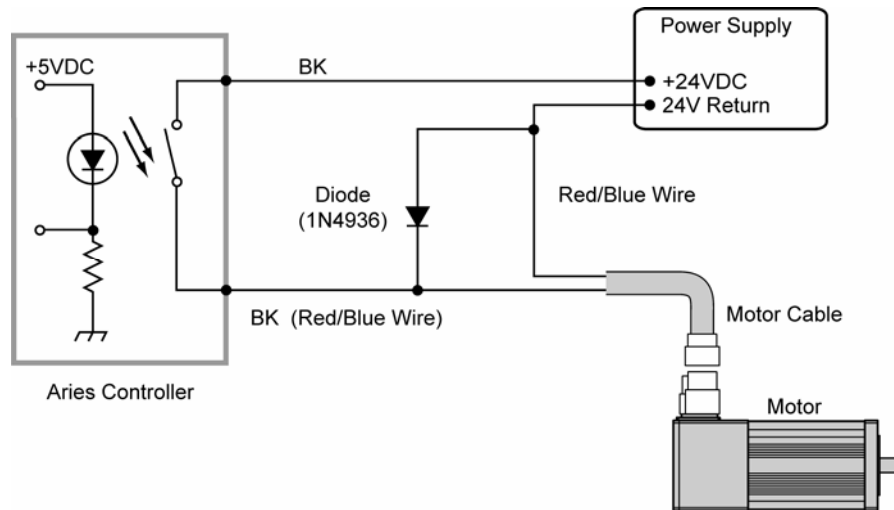

Figure 16 Brake Relay Connection for Motor without Full Wave Rectifiers
3. Between the two red/blue wires, connect the fly-back diode. See Figure 16.
Figure 16 shows a typical installation.